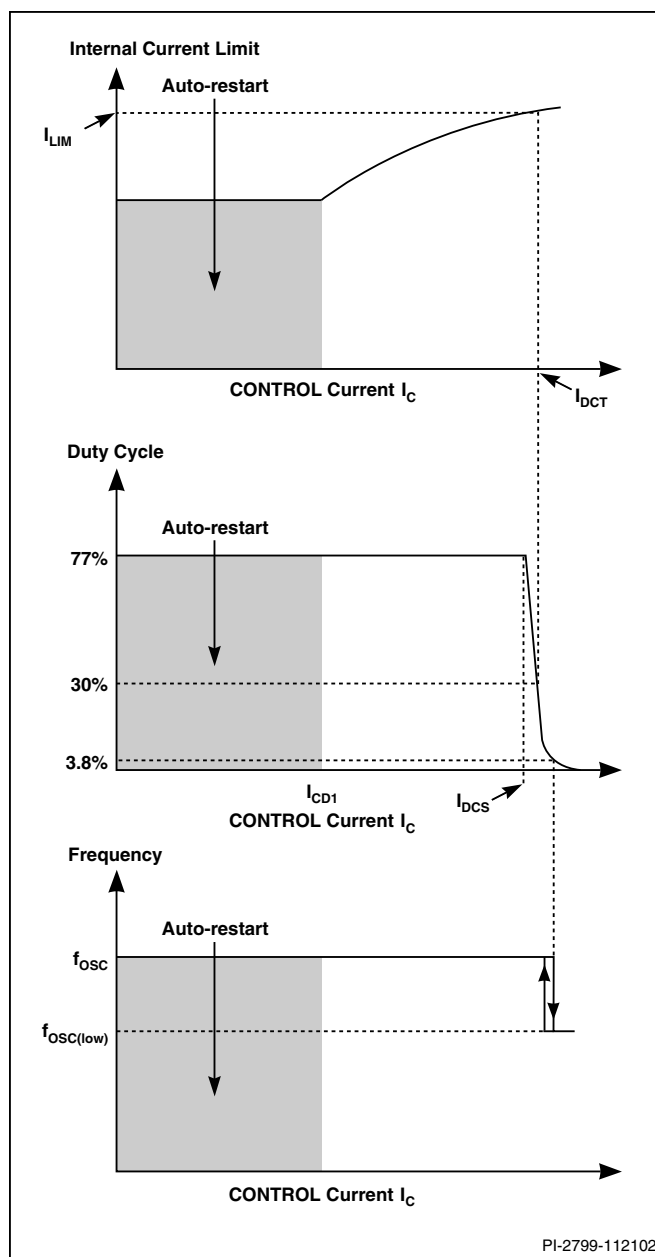
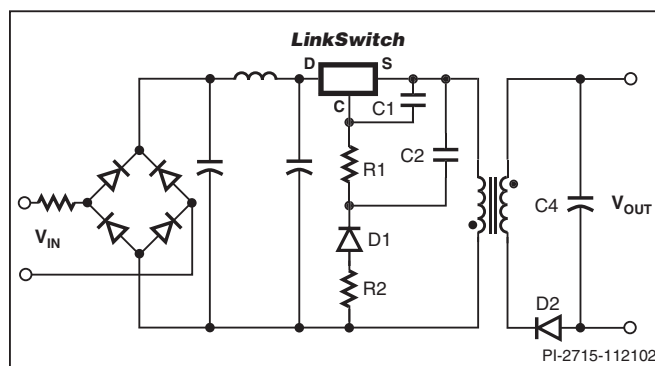
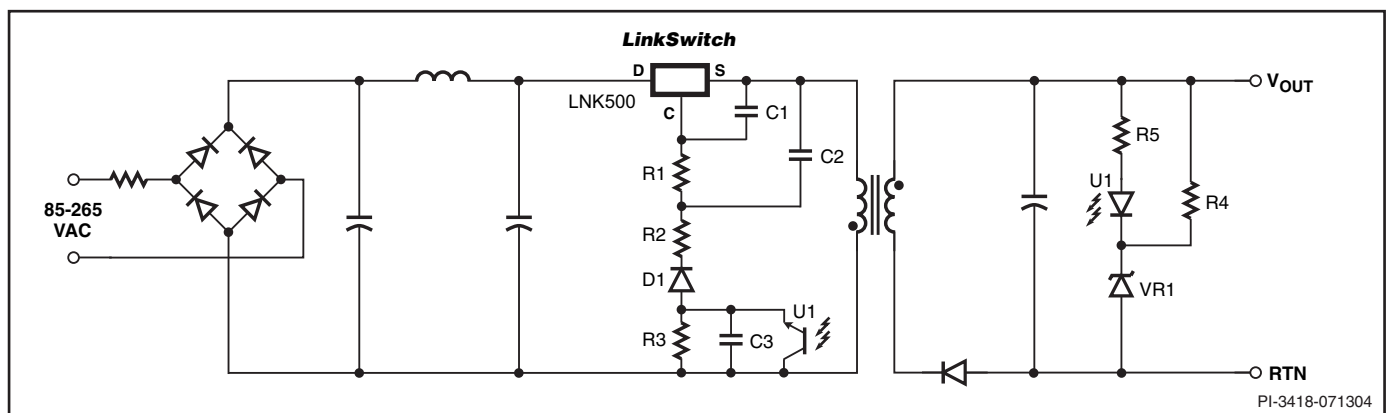

Figure 4. CONTROL Characteristics.
Figure 5. Power Supply Outline Schematic.
Figure 6. Power Supply Outline Schematic with Optocoupler Feedback.
The duty cycle, current limit and operating frequency relationships with CONTROL pin current are shown in Figure 4. Figure 5 shows a typical power supply outline schematic which is used below to describe the *LinkSwitch* operation.
During power up, as V_{IN} is first applied (Figure 5), the CONTROL pin capacitor C1 is charged through a switched high voltage current source connected internally between the DRAIN and CONTROL pins (see Figure 2). When the CONTROL pin voltage reaches approximately 5.6 V relative to the SOURCE pin, the high voltage current source is turned off, the internal control circuitry is activated and the high voltage internal MOSFET starts to switch. At this point, the charge stored on C1 is used to supply the internal consumption of the chip.
As the output voltage, and therefore the reflected voltage across the primary transformer winding ramp up, the feedback CONTROL current I_C increases. As shown in Figure 4, the internal current limit increases with I_C and reaches I_{LIM} when I_C is equal to I_{DCT} . The internal current limit vs. I_C characteristic is designed to provide an approximately constant power supply output current as the power supply output voltage rises.
When I_C exceeds I_{DCS} , typically 2 mA (Figure 4), the maximum duty cycle is reduced. At a value of I_C that depends on power supply input voltage, the duty cycle control limits *LinkSwitch* peak current below the internal current limit value. At this point the power supply transitions from CC to CV operation. With minimum input voltage in a typical universal input design, this transition occurs at approximately 30% duty cycle. Resistor R1 (Figure 5) is therefore initially selected to conduct a value of I_C approximately equal to I_{DCT} when V_{OUT} is at the desired value at the minimum power supply input voltage. The final choice of R1 is made when the rest of the circuit design is complete. When the duty cycle drops below approximately 4%, the frequency is reduced, which reduces energy consumption under light load conditions.
Figure 6 shows a typical power supply outline schematic using *LinkSwitch* with optocoupler feedback to improve output voltage regulation. On the primary side, the schematic differs
from Figure 5 by the addition of R3, C3 and optocoupler U1. R3 forms a potential divider with R1 to limit the U1 collector emitter voltage.
The feedback configuration in Figure 6 is simply a resistive divider made up of R1 and R3 with D1, R2, C1 and C2 rectifying, filtering and smoothing the primary winding voltage signal. The optocoupler therefore effectively adjusts the resistor divider ratio to control the DC voltage across R1 and therefore, the feedback current received by the *LinkSwitch* CONTROL pin.
When the power supply operates in the constant current (CC) region, for example when charging a battery, the output voltage is below the voltage feedback threshold defined by U1 and VR1 and the optocoupler is fully off. In this region, the circuit behaves exactly as previously described with reference to Figure 5 where the reflected voltage increases with increasing output voltage and the *LinkSwitch* internal current limit is adjusted to provide an approximate CC output characteristic. Note that for similar output characteristics in the CC region, the value of R1 in Figure 5 will be equal to the value of $R1 + R3$ in Figure 6.
When the output reaches the voltage feedback threshold set by U1 and VR1, the optocoupler turns on. Any further increase in the power supply output voltage results in the U1 transistor current increasing, which increases the percentage of the reflected voltage appearing across R1. The resulting increase in the *LinkSwitch* CONTROL current reduces the duty cycle according to Figure 4 and therefore, maintains the output voltage regulation.
The extent to which R3 can be increased is limited by opto transistor voltage and dissipation ratings and should be fully tested before finalizing a design. The values of C2 and C3 are less important other than to make sure they are large enough to have very little influence on the impedance of the voltage division circuit set up by R1, R3 and U1 at the switching frequency. Normally, the values of C2 and C3 in Figure 6 are chosen equal to the value of C2 in Figure 5, though the voltage rating may be reduced depending on the relative values of R1 and R2 discussed above. See Applications section for typical values of components.
The output voltage load variation can be improved across the whole load range by adding an optocoupler and secondary reference (Figure 6). The secondary reference is designed to only provide feedback above the normal peak power point voltage to maintain the correct constant current characteristic.
The schematic shown in Figure 5 outlines the key components needed for a *LinkSwitch* supply.
Since the SOURCE pins in a *LinkSwitch* supply are switching nodes, the copper area connected to SOURCE together with C1, C2 and R1 (Figure 5) should be minimized, within the thermal constraints of the design, to reduce EMI coupling.